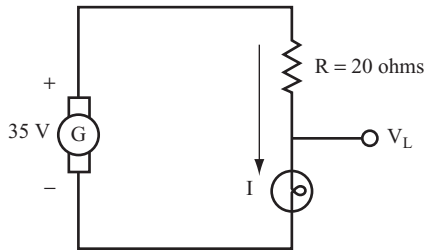

FIGURE 2.28
**26** Assume now that the 20-ohm resistor calculated in problem 25 is in place, and the voltage output of the generator drops to 35 volts, as shown in Figure 2.28. This is similar to what happens when a battery gets old. Its voltage level decays and it will no longer have sufficient voltage to produce the proper current. This results in the lamp glowing less brightly, or perhaps not at all. Note, however, that the resistance of the lamp stays the same.